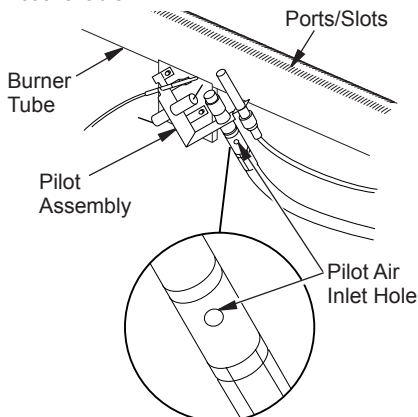

Figure 41 - Pilot Inlet Air Hole
3. Blow air through ports/slots and holes in burner (see Figure 41).
sembly (see Figure 41). With unit off, lightly blow air through air inlet hole. You may blow through a drinking straw if compressed air is not available.